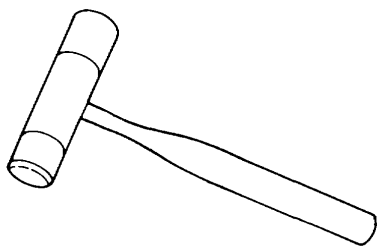

Figure 4-6. Soft-Faced Hammer
(6) Soft-faced hammer. The soft-faced hammer, shown in figure 4-6, is capable of delivering heavy blows to machined, highly polished, or soft surfaces without damage to those surfaces. On some of these hammers, the faces can be removed and replaced when damaged or when a different hardness or toughness is required. These faces are color coded according to their hardness or toughness, as shown in the following listing: